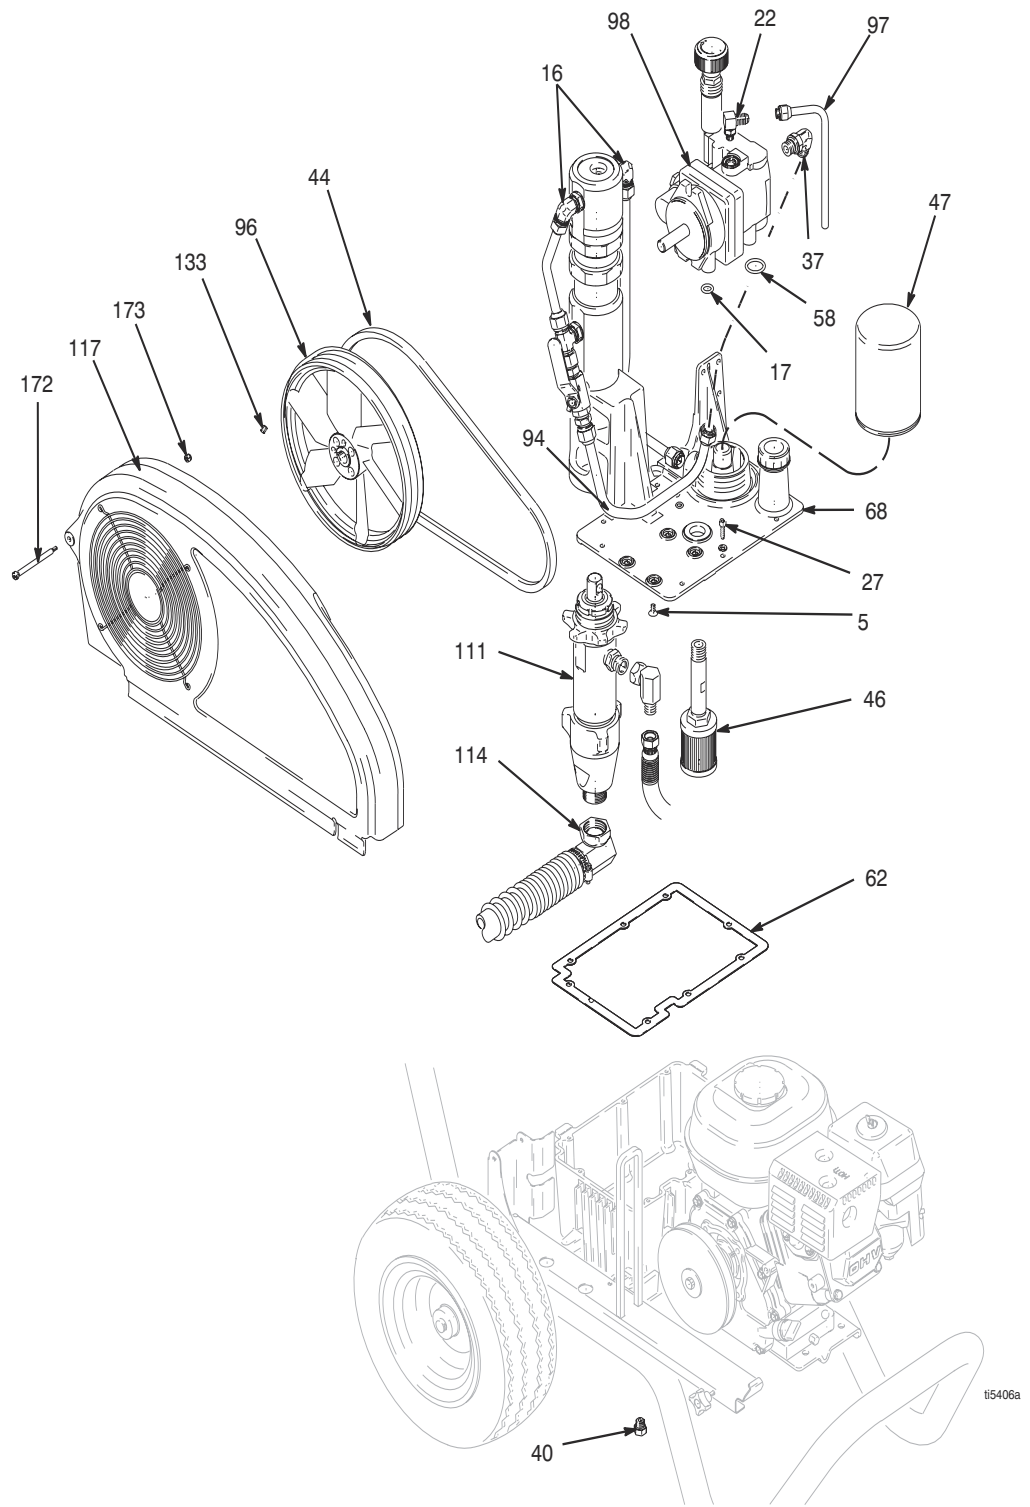

FIG. 2
2. Remove drain plug (40) and oil filter (47) and allow hydraulic oil to drain.
3. Fig. 2. Disconnect suction tube (114).
4. Disconnect paint pump (111), page 15.
5. Remove screw (172), nut (173) and belt guard (117).
6. Raise motor and remove belt (44).
7. Remove two set screws (133) and fan pulley (96).
8. Remove case drain tube (97).
9. Remove elbow (22).
10. Remove tube (94) from elbow (37). Remove elbow (37) from hydraulic pump (98).
11. Remove eight screws (27) reservoir cover (68) filter assembly (46) and gasket (62).
12. Remove four screws (5) and hydraulic pump (98) from reservoir cover (68).
1. Install hydraulic pump (98) to reservoir cover (68) with four screws (5); torque 100 in-lb (11 N·m).
2. Install gasket (62) and reservoir cover (68) with eight screws (27); torque 90 in-lb (10 N·m).
3. Install elbow (37) in hydraulic pump (98). Install elbow (37) in tube (94). Torque to 15 ft-lb (20.3 N·m).
4. Install elbow (22); torque to 15 ft-lb (20.3 N·m).
5. Install case drain tube (97); torque to 25 ft-lb (33.9 N·m).
6. Install fan pulley (96) with two set screws (133).
7. Raise motor and install belt (44).
8. Install belt guard (117) with screw (172) and nut (173).
9. Connect paint pump (111), page 15.
10. Fig. 2. Connect suction tube (114).
11. Install drain plug (40); torque to 110 in-lb (12.4 N·m). Install oil filter (47); tighten 3/4 turn after gasket contacts base. Fill hydraulic pump with Graco hydraulic oil, page 6, through elbow (22) port until full. Fill reservoir with remaining hydraulic oil.